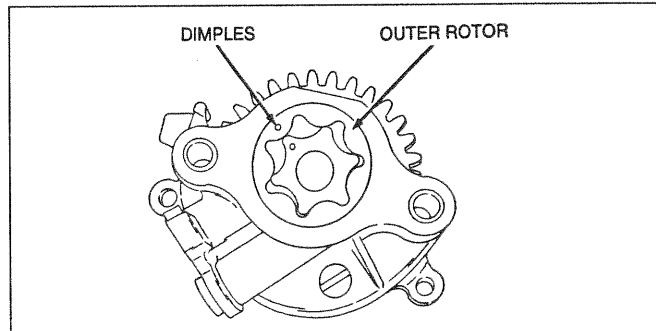

Figure 43. Oil Pump Rotor Installation
- Lubricate the pump outer rotor with clean, fresh engine oil and install into pump with dimples aligned (Figure 43).